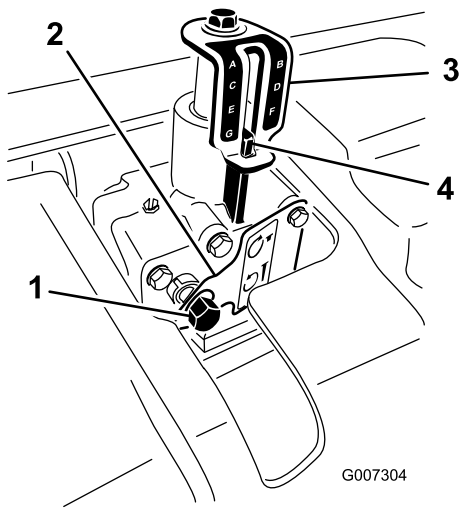

Figure 23
3. Insert a 9/16-inch socket with a ratchet onto the depth adjuster input shaft (Figure 23).
5. Rotate the depth adjuster clockwise to reduce the aeration depth or counterclockwise to increase the aeration depth. (Figure 23).
6. Rotate the depth adjuster input shaft until the desired depth is attained as shown on the depth indicator decal (Figure 23).